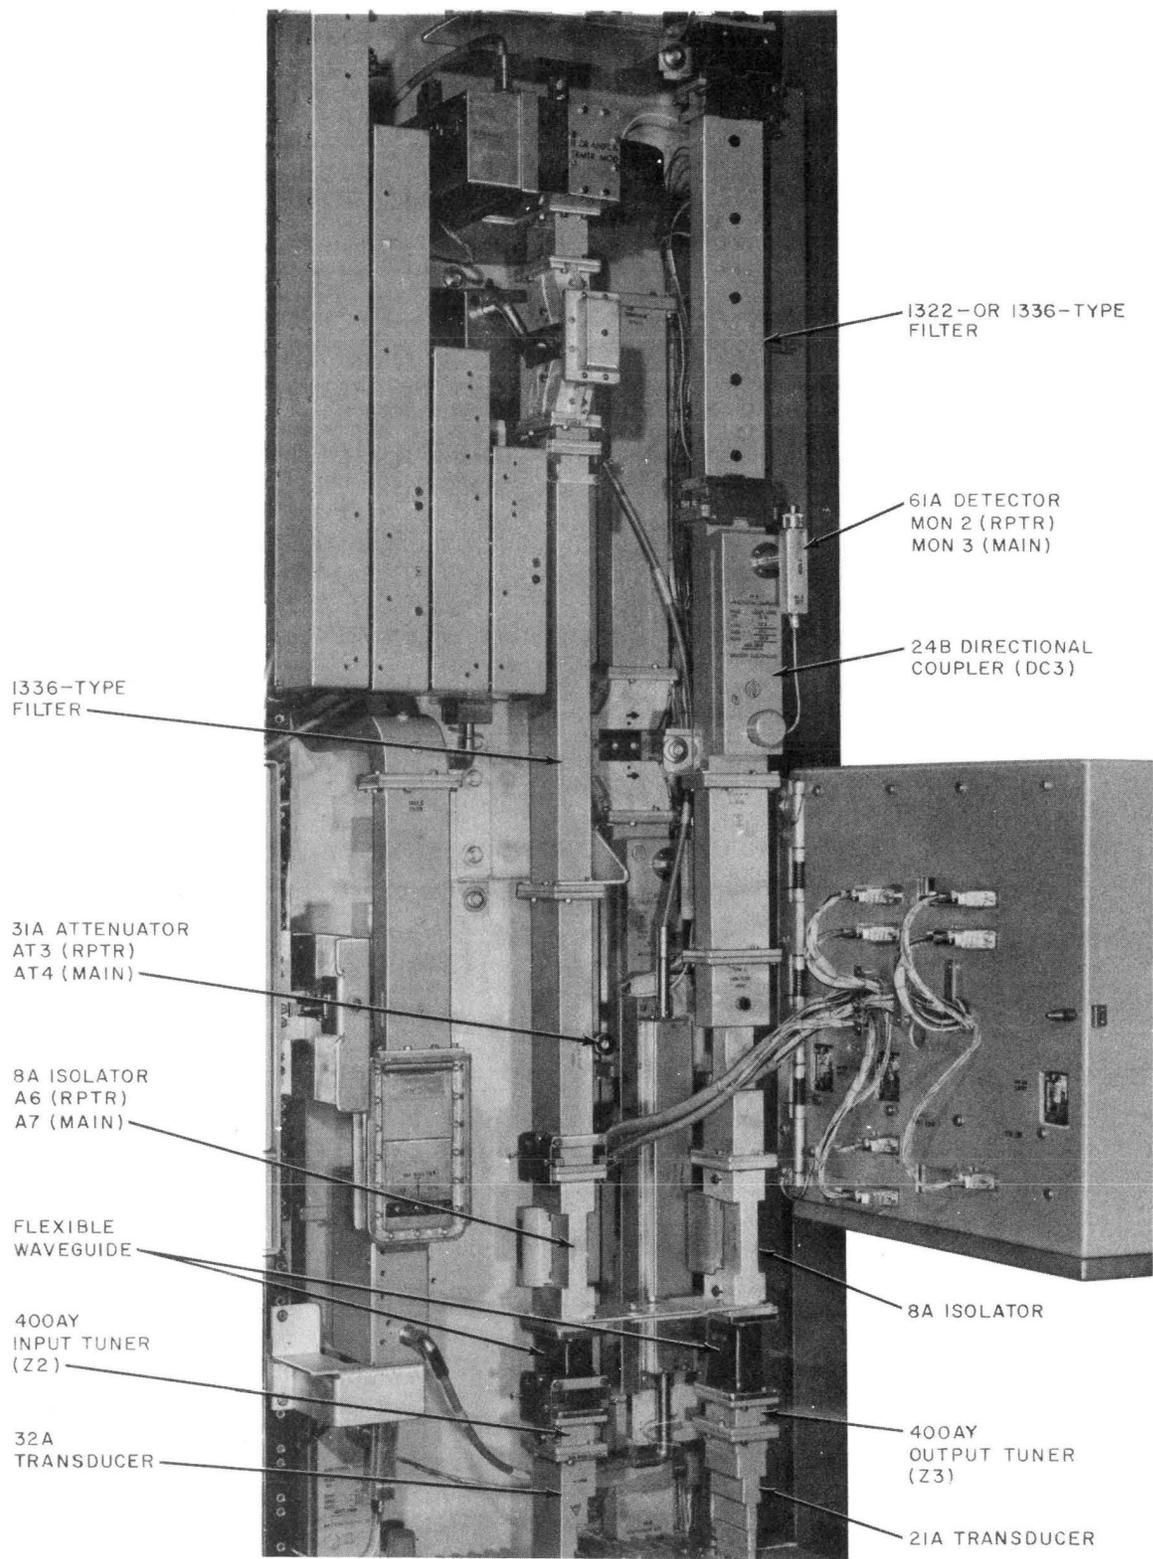

Fig. 1—Transmitter Component Location
1	Prepare for test in accordance with Fig. 4.  Note: The adjustment procedure for main and repeater station bays is the same; however, the filter, isolator, and attenuator designations are different. (See Fig. 1.)
3	If the bay is equipped with a TWT, remove the flexible waveguide connected to tuner Z2. (See Fig. 1.)  Note: Cover Z2 to prevent foreign objects from entering.
4	Attach a 24A transducer to the output of attenuator AT4 (main) or AT3 (repeater) (Fig. 1).
1	<p>Press the TRMTR OUT pushbutton and, if necessary, adjust the 31A attenuator AT3 or AT4 (Fig. 1) ahead of the TWT to obtain the recorded meter indication.</p> <p>If the recorded meter indication cannot be obtained, proceed to Step 4.</p>
- 5 Connect option (Z) and adjust input tuner Z2 and output tuner Z3 (Fig. 1) for maximum power output.
1	Replace the MON 2 or MON 3 detector on the 24B directional coupler DC3 (Fig. 1).